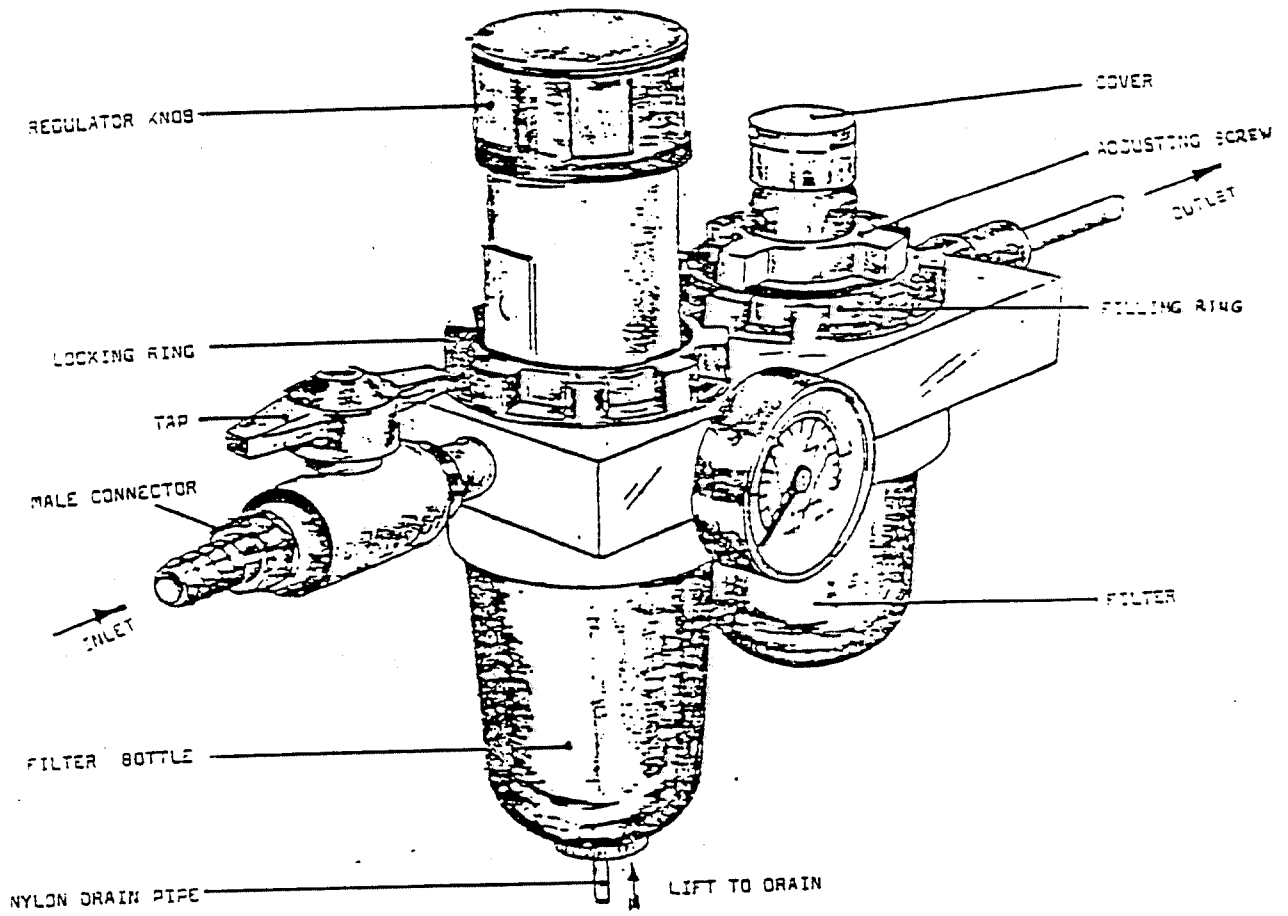

FIG. 8a AIR FILTER/LUBRICATOR. TYPE 8-10-S3/L-10-MF
3.4 AIR SERVICE UNIT (See Fig. 8a)